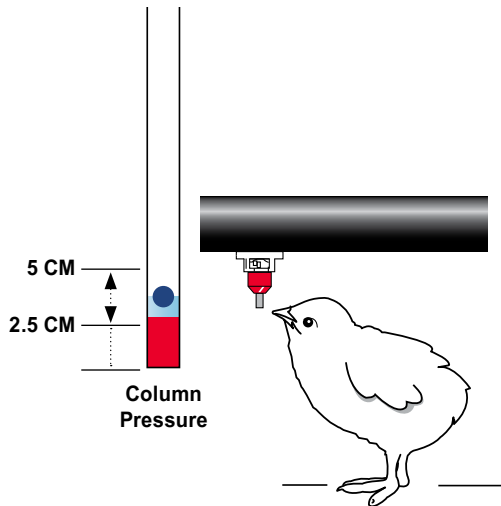

Figure 1.
- Adjust regulator to DAY 1 settings. See Figure 1 on front side.
- Fine-tune drinker line height according to DAY 1 settings. See Figure 1 on front side.